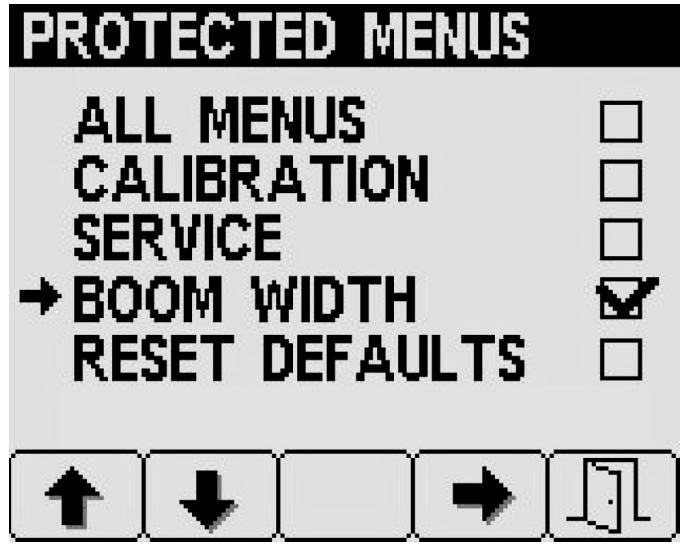

Figure 28
3. Press button 4 to select or deselect individual protected menu items as shown in Figure 28.